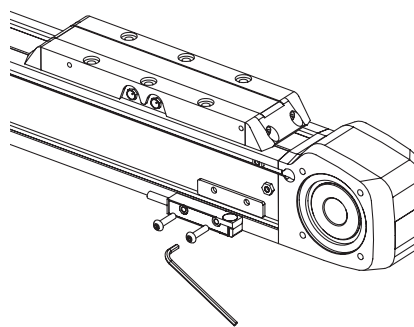

Fig. 7.15 **Mounting the limit switch: HM040**
- ▶ Attach the limit switch with two bolts (in the case of axis size HM040, the spacer plate must also be installed between the limit switch and axis, see Fig. 7.15). First leave the two bolts untightened.